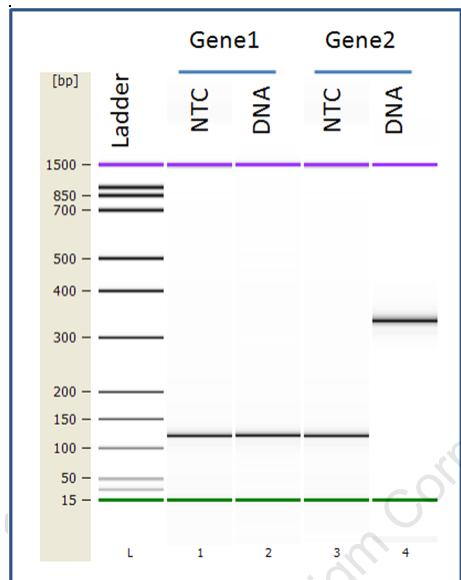

Figure 6
- 3 As shown in Figure 6, Gene 1 did not generate the specific product since the PCR product in the DNA reaction has the same size as in the NTC reaction. Gene 2 did generate the specific product.